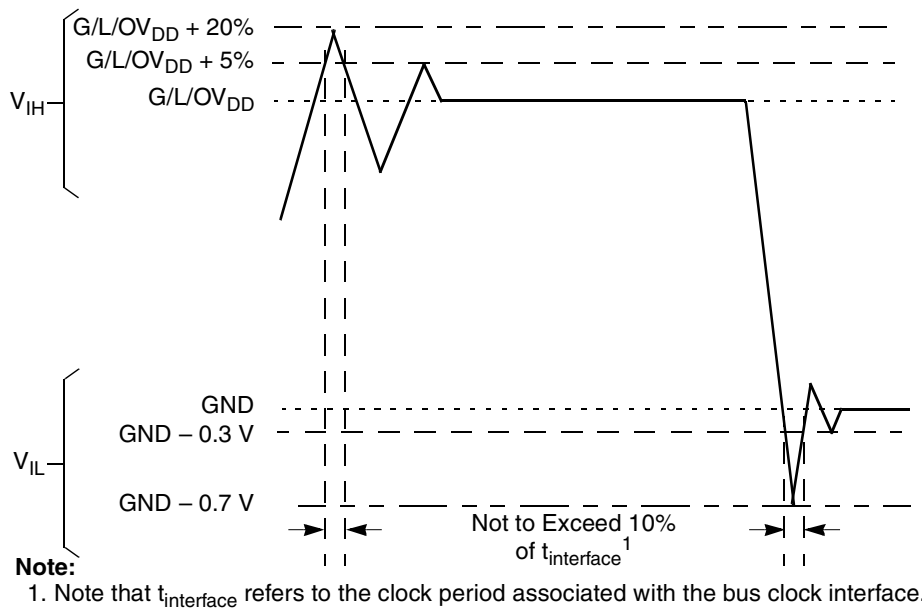

Figure 3. Overshoot/Undershoot Voltage for $G_{V_{DD}}/O_{V_{DD}}/L_{V_{DD}}$
- (M,L,O) V_{IN} and MV_{REF} may overshoot/undershoot to a voltage and for a maximum duration as shown in Figure 3.
Figure 3 shows the overshoot and overshoot voltages at the interfaces of the device.